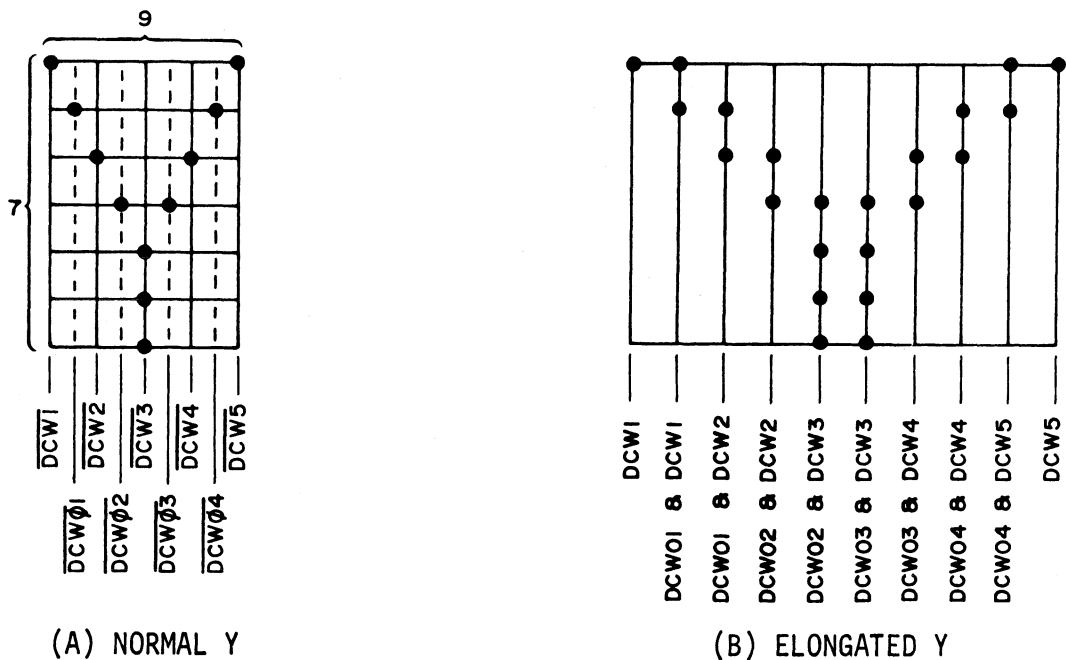

Figure 4-6. NORMAL AND ELONGATED CHARACTERS
For elongated character printing, ROME2 is coincident with the STROBE signal. This combined with the fact that the DCW timing signals from LSI chip ME9 are twice as long during elongated character mode, causes the printed character to be twice as wide as normal characters. An example of the character (Y), both in normal and elongated style, is shown in Figure 4-6.